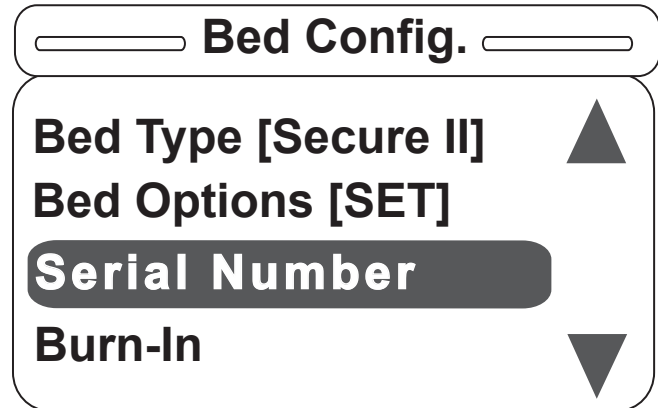

Figure S-22
22. Pressing “Exit” on the footboard panel while in the Bed Options screen will return the user to the Bed Config. main menu as shown in Figure S-22. Note that the user can see the state of the items previously set. Select the Serial Number option and press “Enter” on the footboard panel. If needed, press “Exit” to cancel the operation.